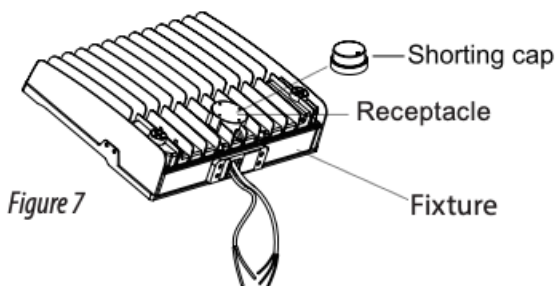

Figure 7
- Unless optional Photocell device (ordered separately) is to be installed, shorting cap should be installed on the back of light. (Figure 7)